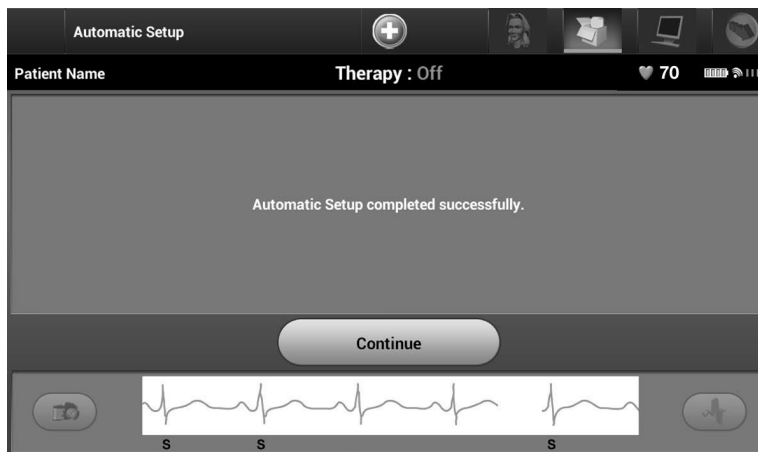

Figure 28: *Confirmation of successful Automatic Setup*
7. Select the Continue button to finish the Automatic Setup process. A confirmation screen will appear when Automatic Setup is complete (Figure 28).